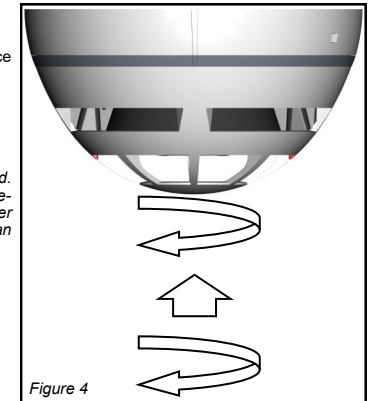

Figure 4
3) Continue to rotate clockwise a few degrees until the detector has fully engaged in the adaptor base (figure 4).